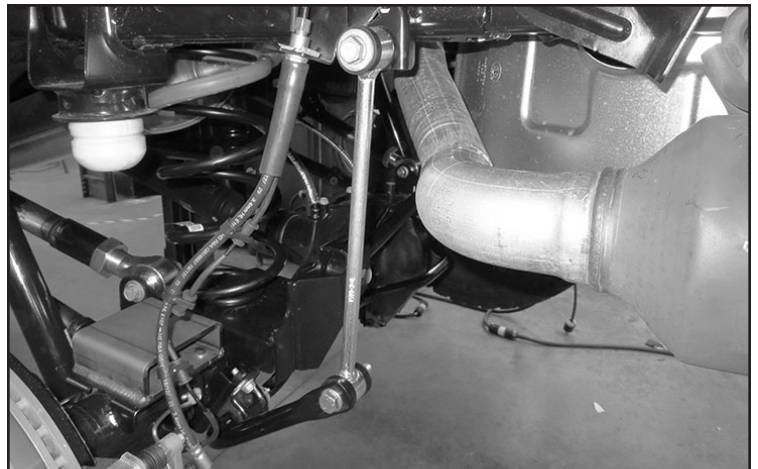

FIGURE 24 - STEP 22
22. Install the FT1004 (Half bushings) and FT404739 (Sleeves) into FT1599-2-4 (Rear sway bar links). Then, install the new links to the sway bar and sway bar mount on the frame using supplied M12 x 70mm bolt and large O.D. washer for the upper location and M12 x 70mm bolt regular washer, large O.D. washer and nut for the lower. Use the larger washer on the nut side. **NOTE: The new end link will need to be installed on the inside of the sway bar and axle mount.** Torque to 65 ft-lbs **SEE FIGURE 24**